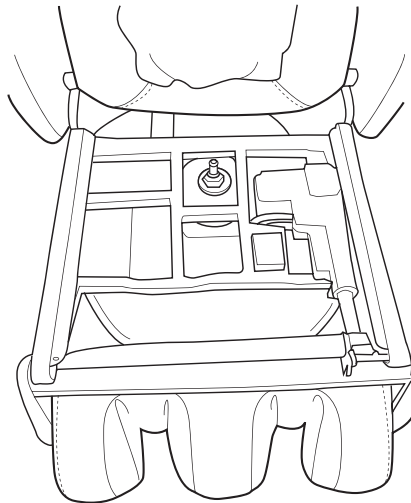

Fig.2
4. Remove the canvas from the chair base (Fig.2).